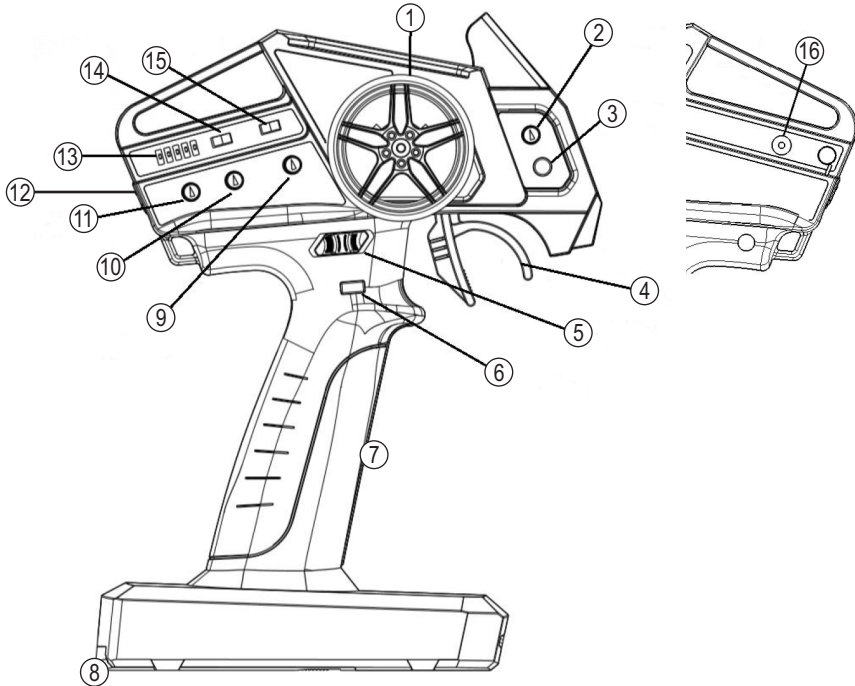

Figure 1
- Push the on/off switch (see fig. 1, no. 12) upwards.
- The LEDs (fig. 1, no. 13) indicate the battery status; the fewer of them are lit, the lower the battery status:
On the side of the transmitter, you will find a charging socket (fig. 1, no. 16) that can be used to charge the rechargeable batteries (for dimensions/polarity/charging current, see section "Technical data").
- "ST-TRIM" knob (fig. 1, no. 9): set the steering servo to the middle/neutral position (or straight-ahead vehicle travel), as described in section 11.6
- "GYRO LV / ST-D/R" knob (fig. 1, no. 11): only when the receiver gyro is **switched off**: steering servo maximum deflection limitation, see section 11.7
- "ST" reverse switch (fig. 1, no. 14): steering function reversal, see section 11.8
The throttle lever (fig. 1, no. 4) controls the speed controller connected to receiver channel 2. Pulling the throttle lever toward the handle causes the vehicle to drive forwards (speed depends on the lever position). Pushing the throttle lever away from the handle causes the vehicle to move backwards (if the reverse function on the speed controller is activated).
- "TH-TRIM" knob (fig. 1, no. 2): set the drive to the middle/neutral position (drive motor stopped), as described in section 11.9.
- "TH-D/R" knob (fig. 1, no. 10): maximum speed limitation, see section 11.10
- "TH" reverse switch (fig. 1, no. 15): drive function reversal, see section 11.11
If the vehicle tends to pull to the left or right while driving, even though the steering wheel is in the middle position, set the steering trim accordingly with the “ST-TRIM” knob on the transmitter (see fig. 1, no. 9).
During the adjustment, one of the LEDs (fig. 1, no. 13) indicates the trim position, and the LED display changes back to the battery status if the knob is not moved for approx. 5 seconds.
The “GYRO LV / ST-D/R” knob (fig. 1, no. 11) has two different functions depending on whether the receiver gyro is enabled or disabled.
The “GYRO LV / ST-D/R” knob (fig. 1, no. 11) allows changing the gyro sensitivity. More details can be found in section 12.
The “GYRO LV / ST-D/R” knob (fig. 1, no. 11) allows limiting the maximum steering angle, thus improving the vehicle steering performance during fast driving, as it responds more sensitively.
During the adjustment, one of the LEDs (fig. 1, no. 13) indicates the setting, and the LED display changes back to the battery status if the knob is not moved for approx. 5 seconds.
Use the “ST” slide switch (fig. 1, no. 14) to reverse the steering servo movement direction (e.g. when holding the transmitter with your right hand and steering with your left hand).
If the vehicle does not stop when you release the throttle lever for forward/reverse travel (middle/neutral position), set the trim for the drive function accordingly on the transmitter with the “TH-TRIM” knob (see fig. 1, no. 2).
During the adjustment, one of the LEDs (fig. 1, no. 13) indicates the trim position, and the LED display changes back to the battery status if the knob is not moved for 5 seconds.
Use the “TH-D/R” knob (fig. 1, no. 10) to limit the driving speed. This is how you can familiarise yourself with the vehicle and its behaviour. This control is especially useful for beginners with little experience with that fast vehicles.
Normally, pulling the throttle lever towards the handle on the transmitter causes the vehicle to move forward. Otherwise, use the “TH” slide switch (fig. 1, no. 15) to reverse the movement direction of the drive.